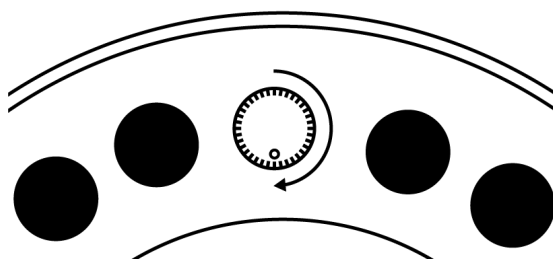

Figure 1.
18. Without removing the tubes from the centrifuge, twist the **Reaction Tubes** 180° until the notch faces inwards to the center (see Figure 1).